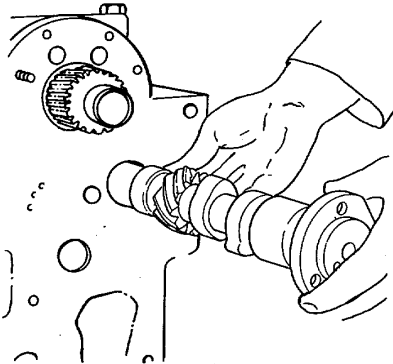

Figure 5-38. Camshaft Removal.
- (8) Ease the camshaft (8) out from the block and catch the thrust washers (6) as they come out of the recess in the cylinder block.
- (9) Withdraw the camshaft (8) (see Figure 5-38) ensuring that the cams and journals are not damaged.